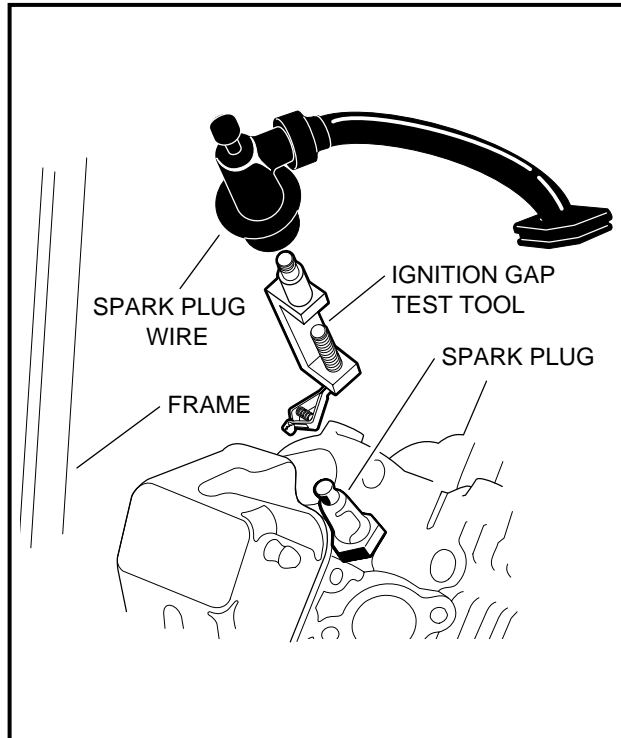

Figure 11-38 Ignition Spark Test
2. Remove the plug wire from the spark plug. Using an ignition spark gap test tool (Thexton 404[®] or equivalent), check for correct spark (**Figure 11-38, Page 11-34**).